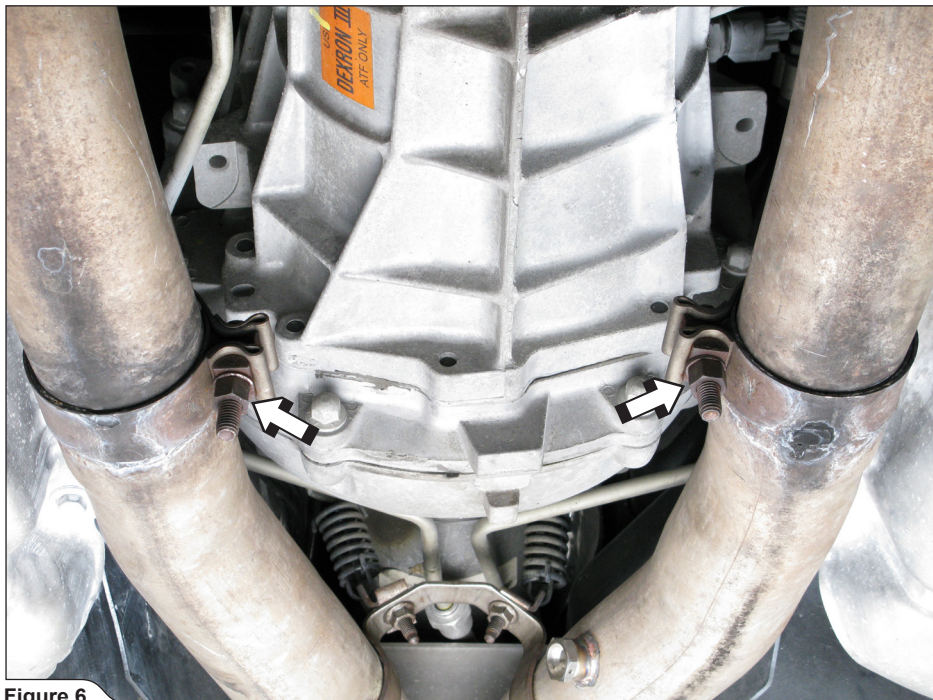

Figure 6
4. For Slip-On and Evolution: untighten the marked clamps (Figure 6).